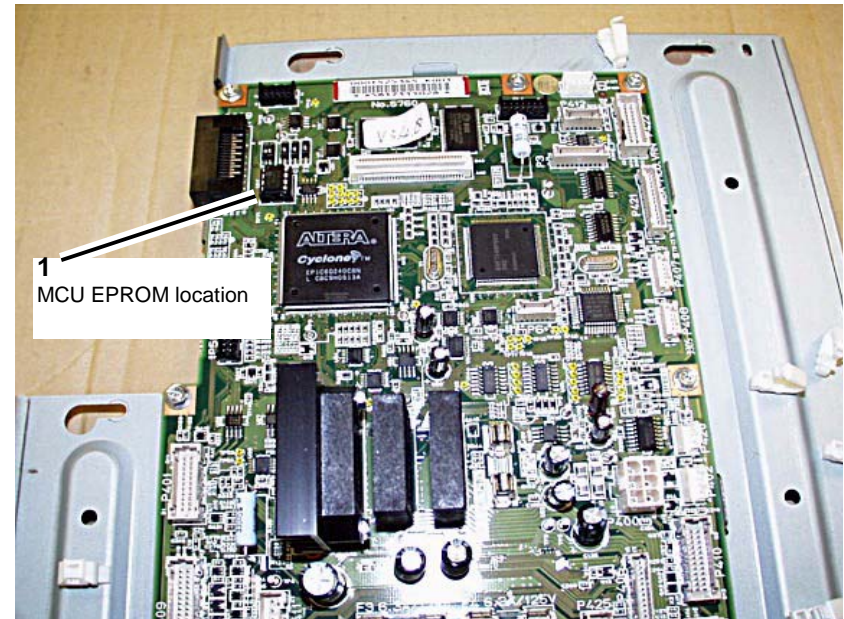

Figure 4 MCU PWB EPROM Location
7. If a new MCU PWB will be installed, remove EPROM from old MCU PWB and save for installation on new MCU PWB. (Figure 4)